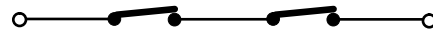

Fig. 12
**N.B. If two or more devices have the same function (opening or closing), they should be connected to each other in series (see fig. 12). N.C. contacts must be used.**